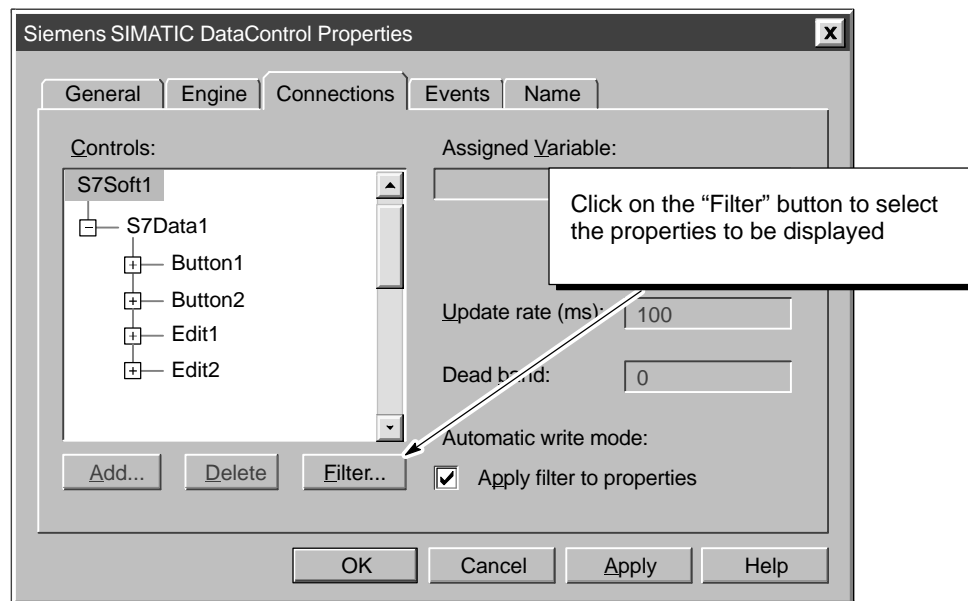

Figure 5-9 Data Control Properties (Connections Tab)
2. As shown in Figure 5-9, click on the “Filter” button.